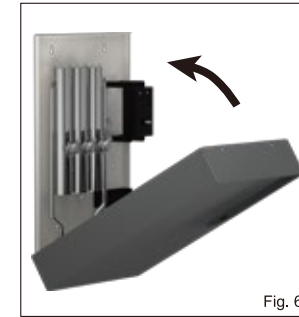

Fig. 6
7. Reinstall the front cover after finish "PLUMBING INSTALLATION" and "ELECTRICAL INSTALLATION". Fasten the front cover only after confirming that the mounting screws are firm and reliable. The front cover mounting shown as below (Fig. 6).